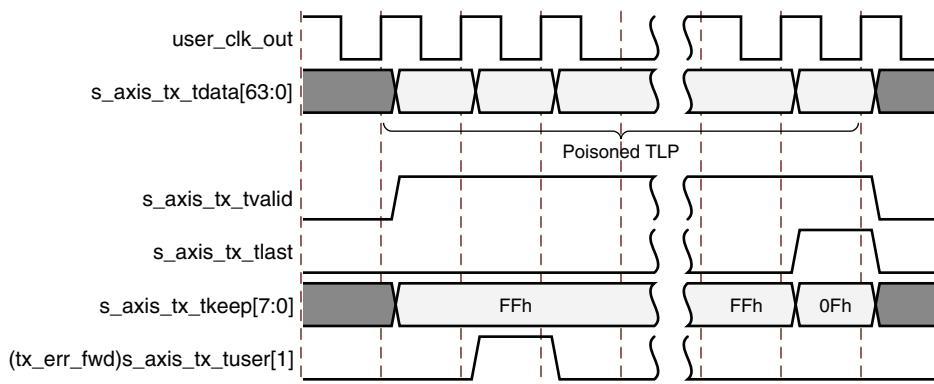

Figure 3-12: Packet Data Poisoning on the Transmit Interface
- Assert `s_axis_tx_tuser[1] (tx_err_fwd)` for at least one valid data transfer cycle any time during the packet transmission, as shown in Figure 3-12. This causes the core to set EP = 1 in the TLP header when it transmits the packet onto the PCI Express fabric. This mechanism can be used if the user application does not know whether a packet could be poisoned at the start of packet transmission. Use of `terr_fwd` is not supported for packets when `s_axis_tx_tuser[2] (tx_str)` is asserted (streamed transmit packets). In streaming mode, you can optionally discontinue the packet if it becomes corrupted. See Discontinuing Transmission of Transaction by Source, page 52 for details on discontinuing packets.